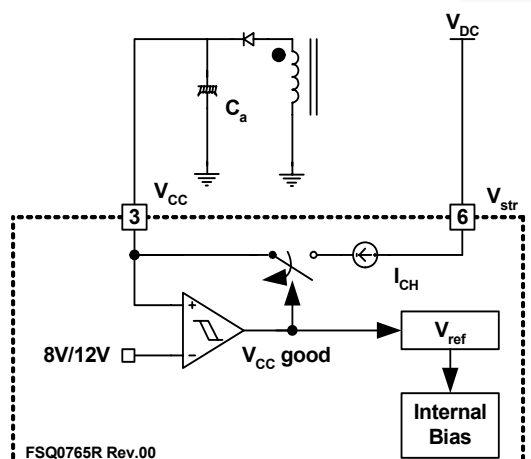

Figure 31. Startup Circuit
4.3 Output-Short Protection (OSP): If the output is shorted, steep current with extremely high di/dt can flow through the SenseFET during the LEB time. Such a steep current brings high voltage stress on drain of SenseFET when turned off. To protect the device from such an abnormal condition, OSP is included in the FSQ-series. It is comprised of detecting V_{FB} and SenseFET turn-on time. When the V_{FB} is higher than 2V and the SenseFET turn-on time is lower than 1.2 μ s, the FPS recognizes this condition as an abnormal error and shuts down PWM switching until V_{CC} reaches V_{start} again. An abnormal condition output short is shown in Figure 31.